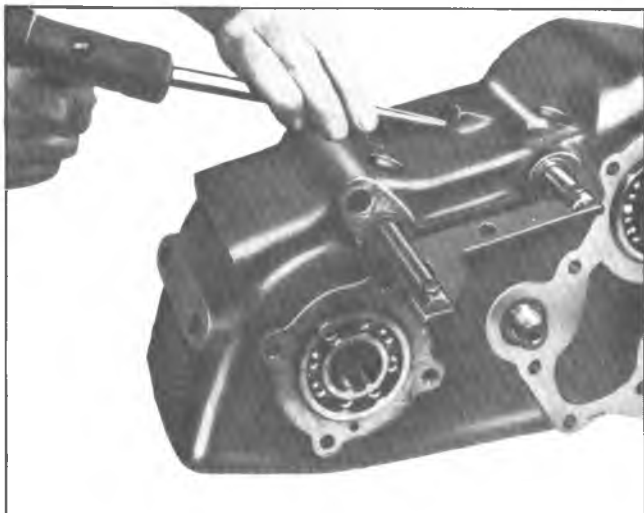

Fig. 15C--Installing Shift Rail Lock Pins
8. Install new lock pins through holes at top of case and drive them into the forks (Fig. 15C).